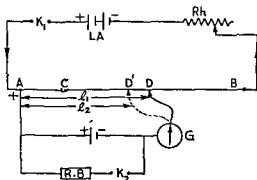

Fig 17.3
1. Make the connections as shown in the figure 17-3.